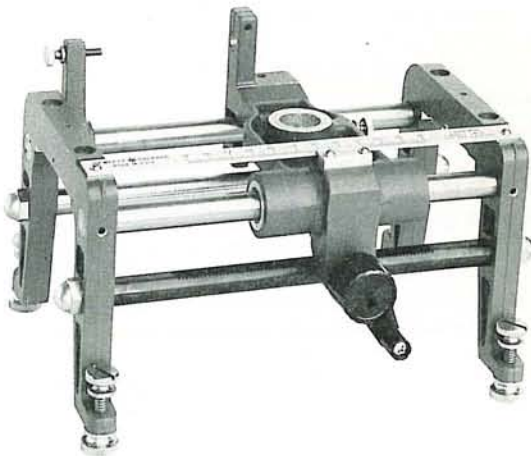

Figure 2. Model 809C Universal Probe Carriage
4. A Model 810B slotted section is installed in an 809C Universal Probe Carriage shown in Figure 2. In operation, RF power is applied through the slotted section to the device under investigation. The fields in the line are sampled by means of a probe which protrudes into the slotted section. The output of the probe is fed to a high-gain voltmeter such as the HP Model 415E Standing Wave Indicator. With this type of setup, information about variations along the entire length of probe travel can be obtained.